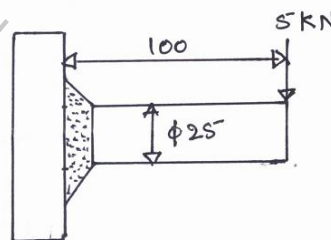

Fig. Q8 (b)
b. A solid circular shaft 25 mm in diameter is welded to a support by means of a fillet weld as shown in Fig. Q8 (b). Determine the leg dimensions of the weld if the permissible shear stress is 95 MPa. (10 Marks)